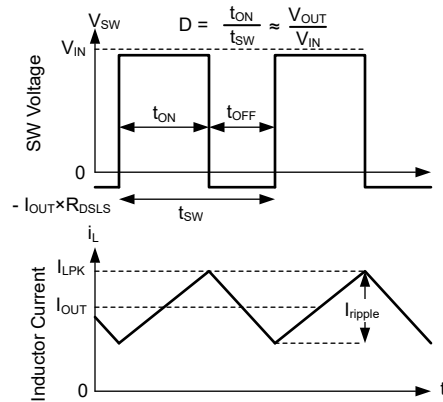

Figure 7-10. SW Voltage and Inductor Current Waveforms in Continuous Conduction Mode (CCM)
The following operating description of the TPSM656x0 refers to Section 7.2 and the waveforms in Figure 7-10. Both supply a regulated output voltage by turning on the internal high-side (HS) and low-side (LS) NMOS switches with varying duty cycle (D). During the HS switch on-time, the SW terminal voltage, V_{SW} , swings up to approximately V_{IN} , and the inductor current, i_L , increases with a linear slope. The HS switch is turned off by the